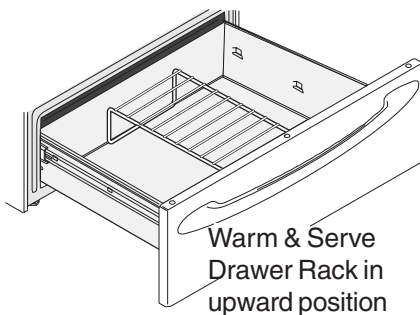
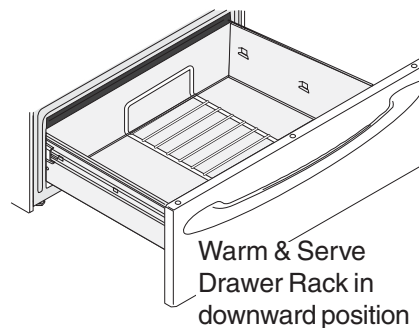

Figure 1
Figure 2
- In the **upward position** (Figure 1) to allow low profile food items to be placed both under and on top of the rack (for example, rolls or biscuits on top of the rack and a casserole dish underneath).
- In the **downward position** (Figure 2) to allow you to place light weight food items and empty dishware (for example, rolls or pastries and dinner plates) on the rack.
2. Set the desired power level. Touch  once to turn ON the power level for HI (see Figure 1) or  to turn ON the power level for LO (see Figure 3). The Warm & Serve Drawer indicator light located beside the  pad will turn ON steady.
3. Each touch of the  or  pads will decrease or increase through 6 power levels from **HI** (see Figure 1) to **MED** (see Figure 2) to **LO** (see Figure 3). Note: For best results, preheat the Warm & Serve Drawer before adding the food. An empty drawer will preheat in approximately 15 minutes.